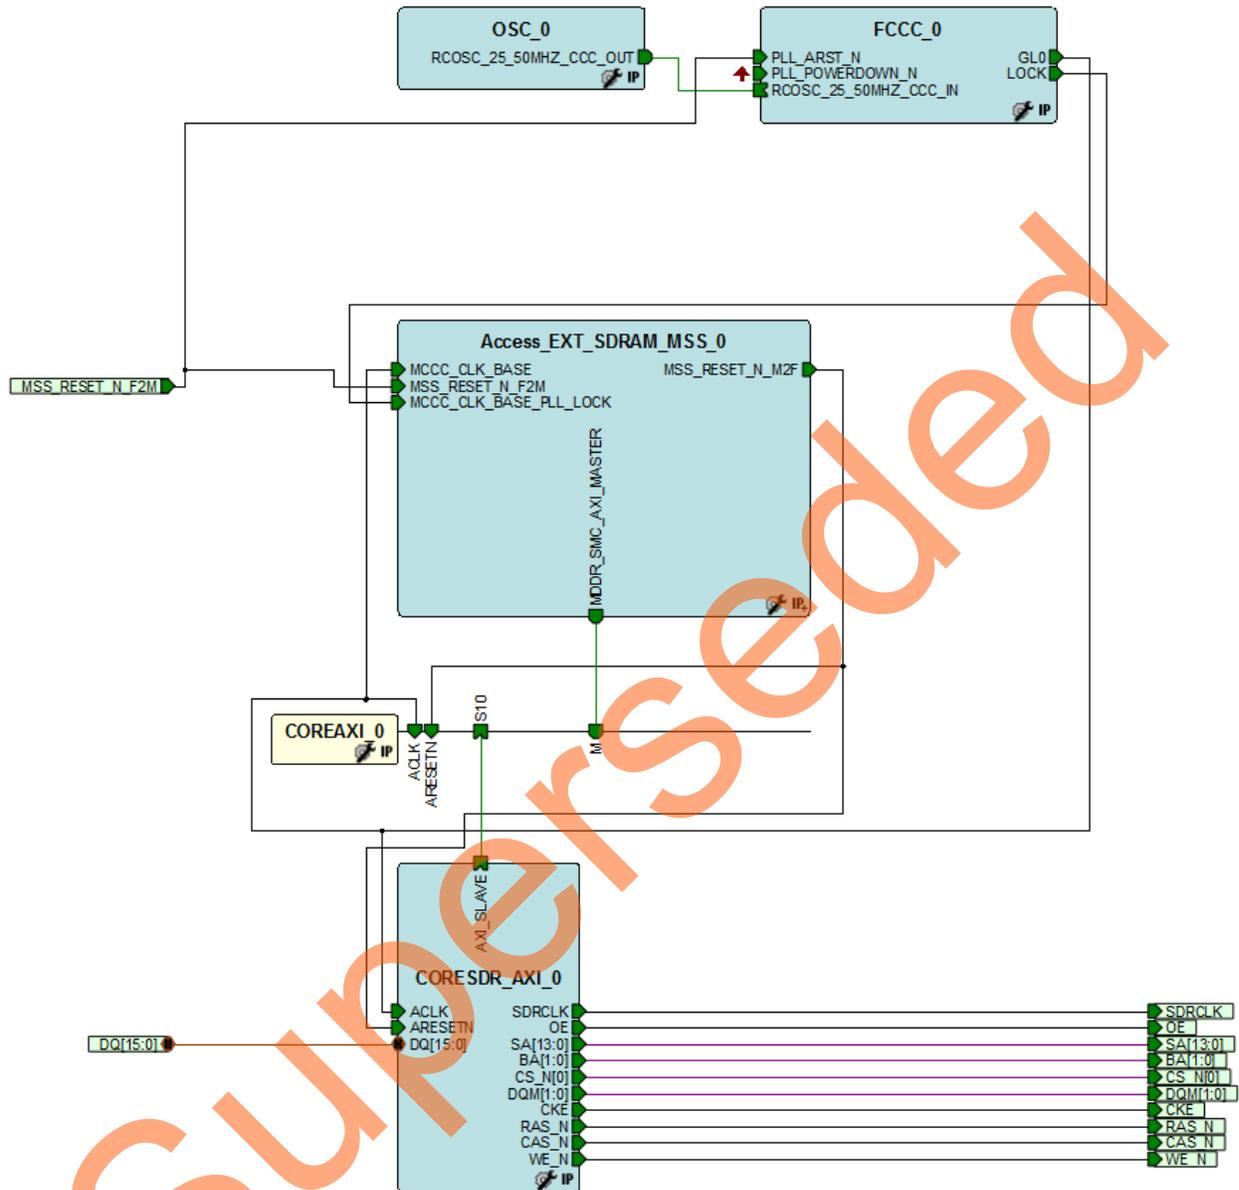

Figure 24. After Making the Top-Level Connection
- Connect ROSC_25_50MHZ_CCC_OUT(M) of OSC_0 to ROSC_25_50MHZ_CCC_IN(S) of FCCC_0.
- Click **Auto arrange instances** to arrange the instances, as shown in Figure 24. Save the design by selecting **File > Save**.